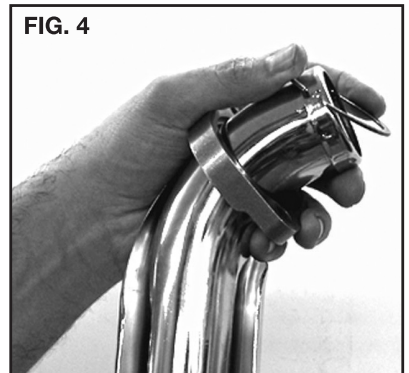

FIG. 4
8. Install the circlips and flanges from the stock system onto both new headpipes (FIG. 4).